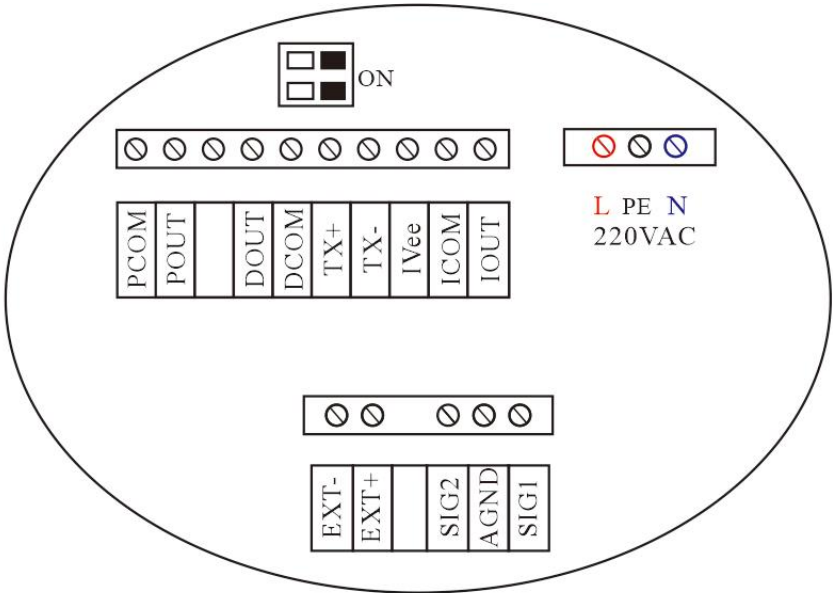
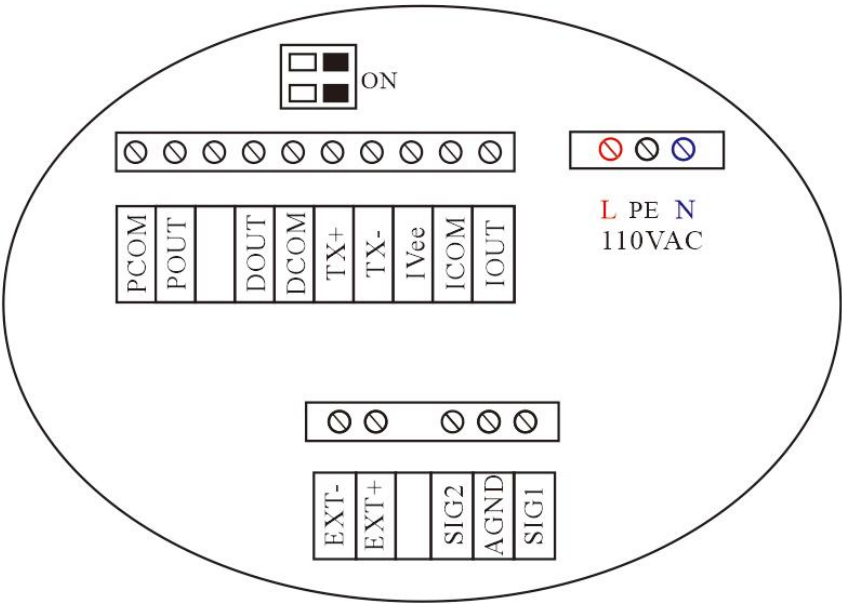
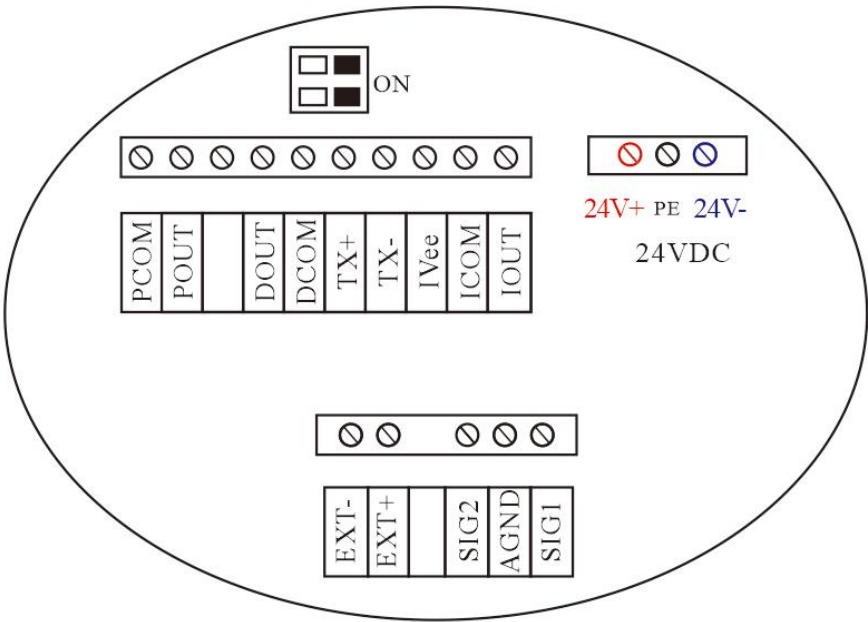
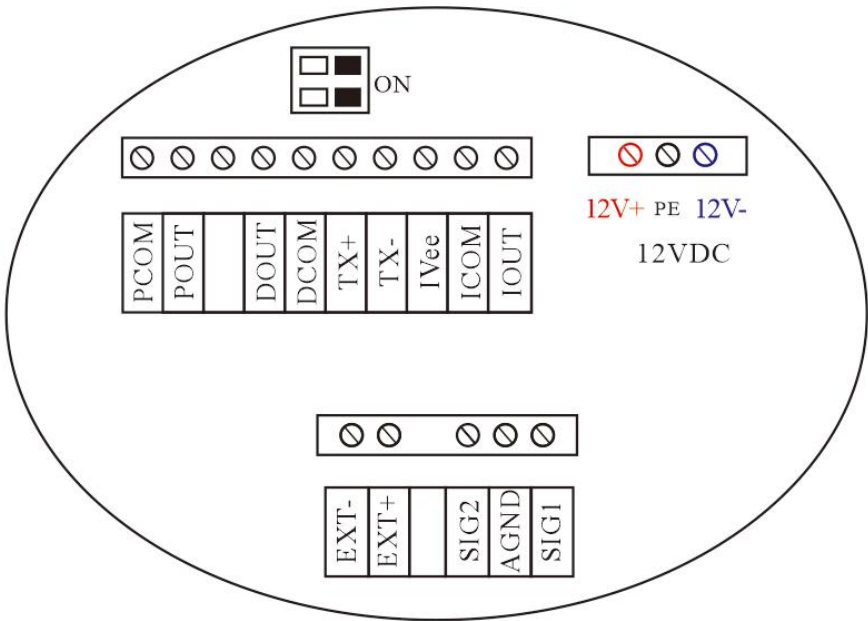

Figure 7 : Round meter (220V) terminal block diagram
Figure 7a: Round meter (110V) terminal block diagram
Figure 7b: Round meter (24V) terminal block diagram
Figure 7c: Round meter (12V) terminal block diagram
7.3 Integrated converter wiring diagram and signal definition(Figure 7, Figure 7a, Figure 7b, Figure 7c)